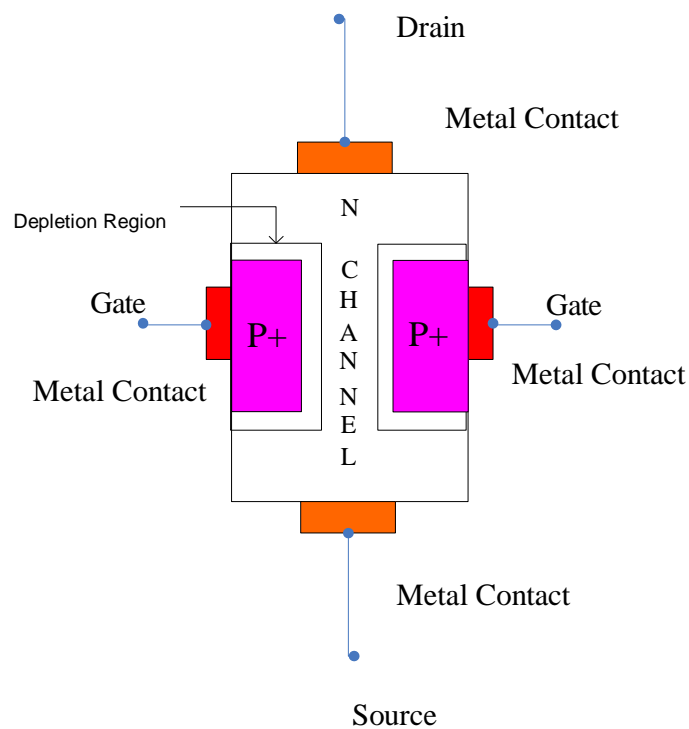

Fig.2.2: Construction of N-Channel JFET
The schematic view of construction of n-channel JFET is shown in Fig. 2.2. There are three terminals in the structure namely (i) Drain (D) (ii) Gate (G) (iii) Source (S) .
For n-channel JFET, channel is n-type material. Gate material is opposite to channel type i.e. for n-channel JFET; channel is p-type material. Gate region is heavily doped compared to channel. Here P⁺ indicates heavily doped region with p-type material. In the schematic structure (Fig.2.2), channel region is belonging between gate regions. Metal contacts are employed for terminal contact i.e. to connect the device with circuitry. As shown in the diagram (Fig. 2.2) the JFET structure is symmetrical. Basically all the FETs structure is symmetrical.